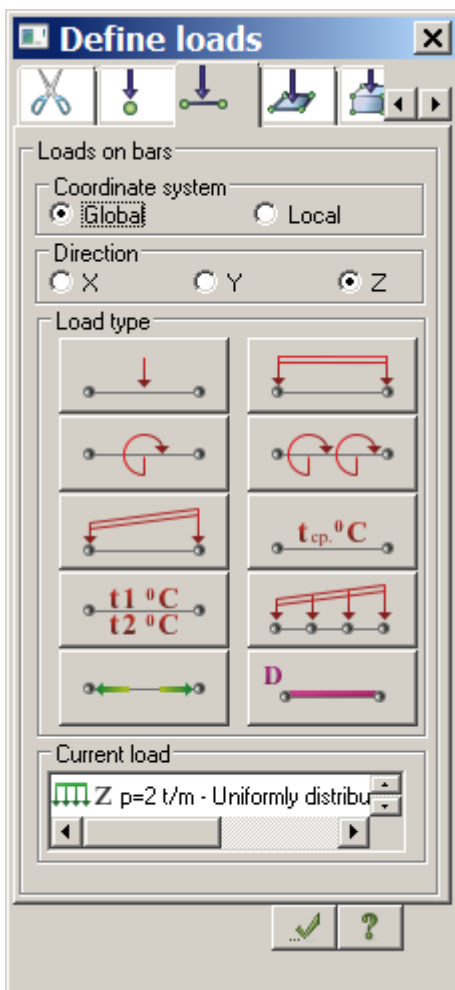

Figure 12.21 Define loads dialog box
- ⇒ In the **Define loads** dialog box (see Fig.12.21), specify **Global** coordinate system and direction along the **Z-axis** (default parameters).